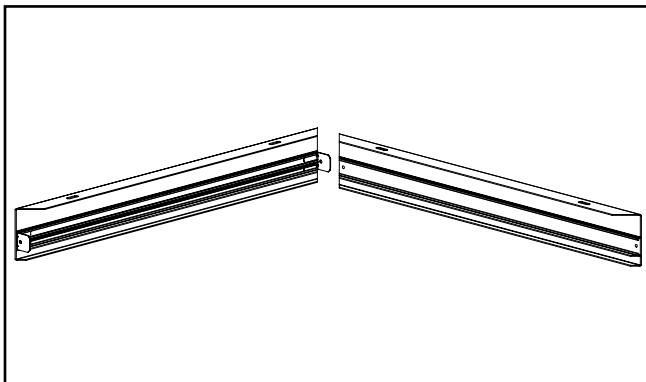

Figure 2.
2. Slide adjacent frame into place so that the clearance holes line up with those in the L - bracket. (Figure 2.)